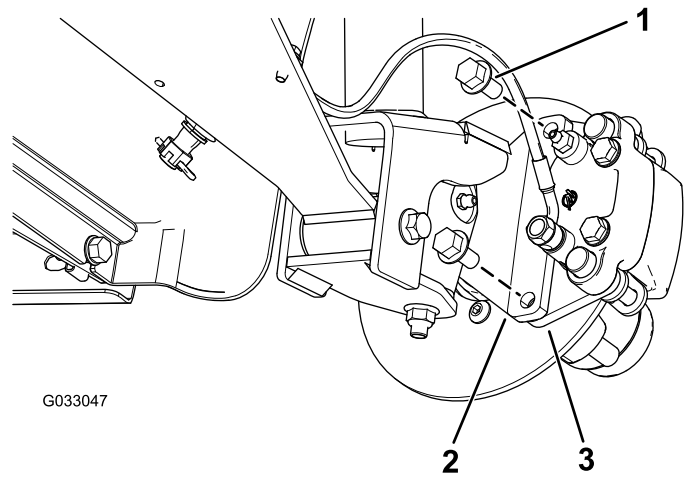
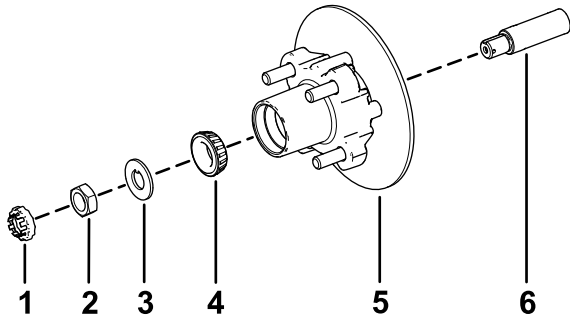

Figure 32
Figure 36
3. Remove the flange-head bolts (3/8 x 3/4 inch) that secure the bracket for the brake assembly to the spindle and separate the brake from the spindle (Figure 32).
1. Apply a light coat of the specified grease to the spindle (Figure 36).
2. Assemble the hub and rotor onto the spindle with the rotor inboard (Figure 36).
3. Assemble the outboard bearing onto the spindle and seat the bearing to the outboard race (Figure 36).
4. Assemble the tab washer onto the spindle (Figure 36).
5. Thread the spindle nut onto the spindle and tighten the nut to 15 N·m (11 ft-lb), while rotating the hub to seat the bearing (Figure 36).
2. Align the brake pads to either side of the rotor (Figure 32) and the holes in the caliper bracket with the holes in the brake mount of the spindle frame (Figure 36).
3. Secure the caliper bracket to the spindle frame (Figure 32) using the 2 flange-head bolts (3/8 x 3/4 inch).